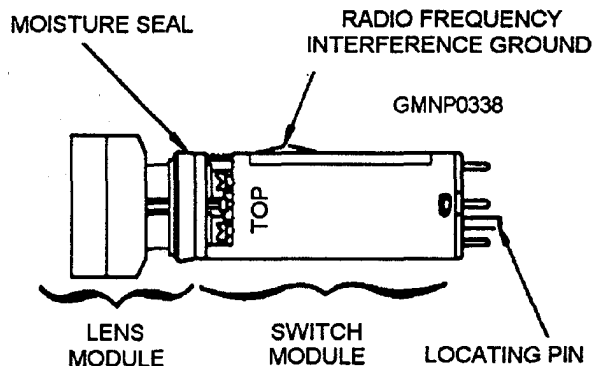

Figure 5-71.—Light-emitting diode switch/indicator assembly.
Control switches on the EP2 are used by the EP2 operator to select, start, and stop various equipment operations. Three types of control switches are used—the light-emitting diode (LED) switch/indicator assembly (fig. 5-71) or the switch/indicator assembly
**LIGHT-EMITTING DIODE SWITCH/INDICATOR ASSEMBLY.**— The LED switch/indicator assembly (refer to fig. 5-71) is a rack-mounted, plug-in type, lighted push-button switch and LED indicating light assembly with a display face. The assembly consists of a switch module and a lens module.